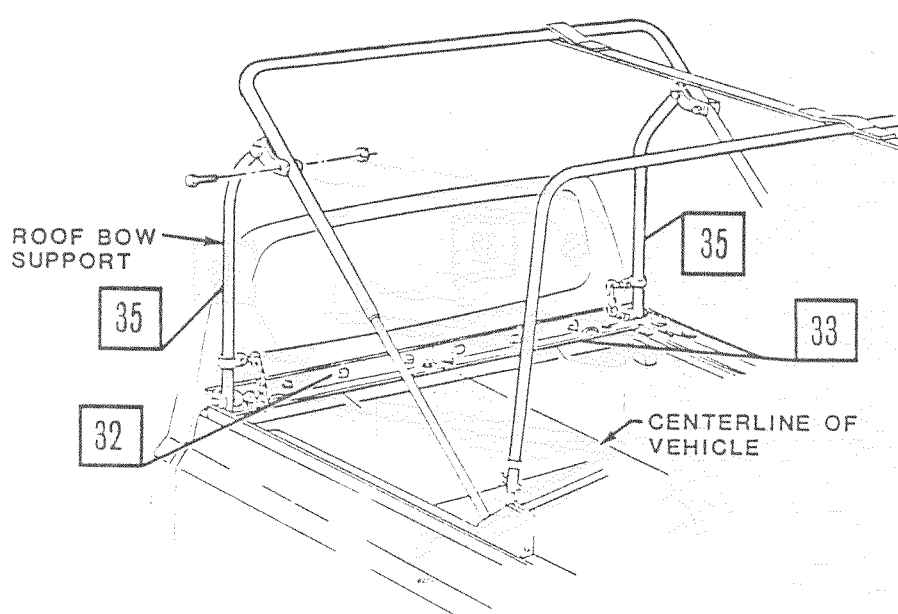

Figure 10.
37. Remove front roof bow tension straps and install new roof bow supports (Figure 10.). Tighten bolt to 50-60 lb.-in. (6.0-8.0 Nm).